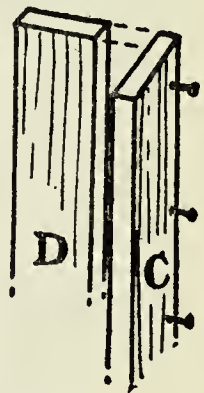

Fig. 214
strip of full width (C, Fig. 214), and a strip cut $\frac{3}{8}$ inch narrower (D), the former strip overlapping an edge of the latter. Nail the corner strips together